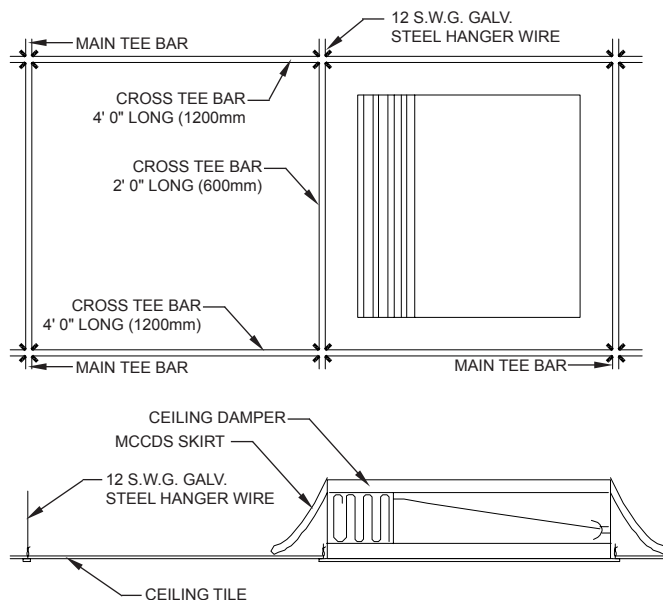

FIG. 9
1. Place damper in ductless return opening of ceiling grid so that the bottom of the damper frame rests on the inside flange of the T-bars (See **FIG. 9**).
2. Place skirt of MCCDS damper over the T-bars around the perimeter of the damper as shown in **FIG. 9**.